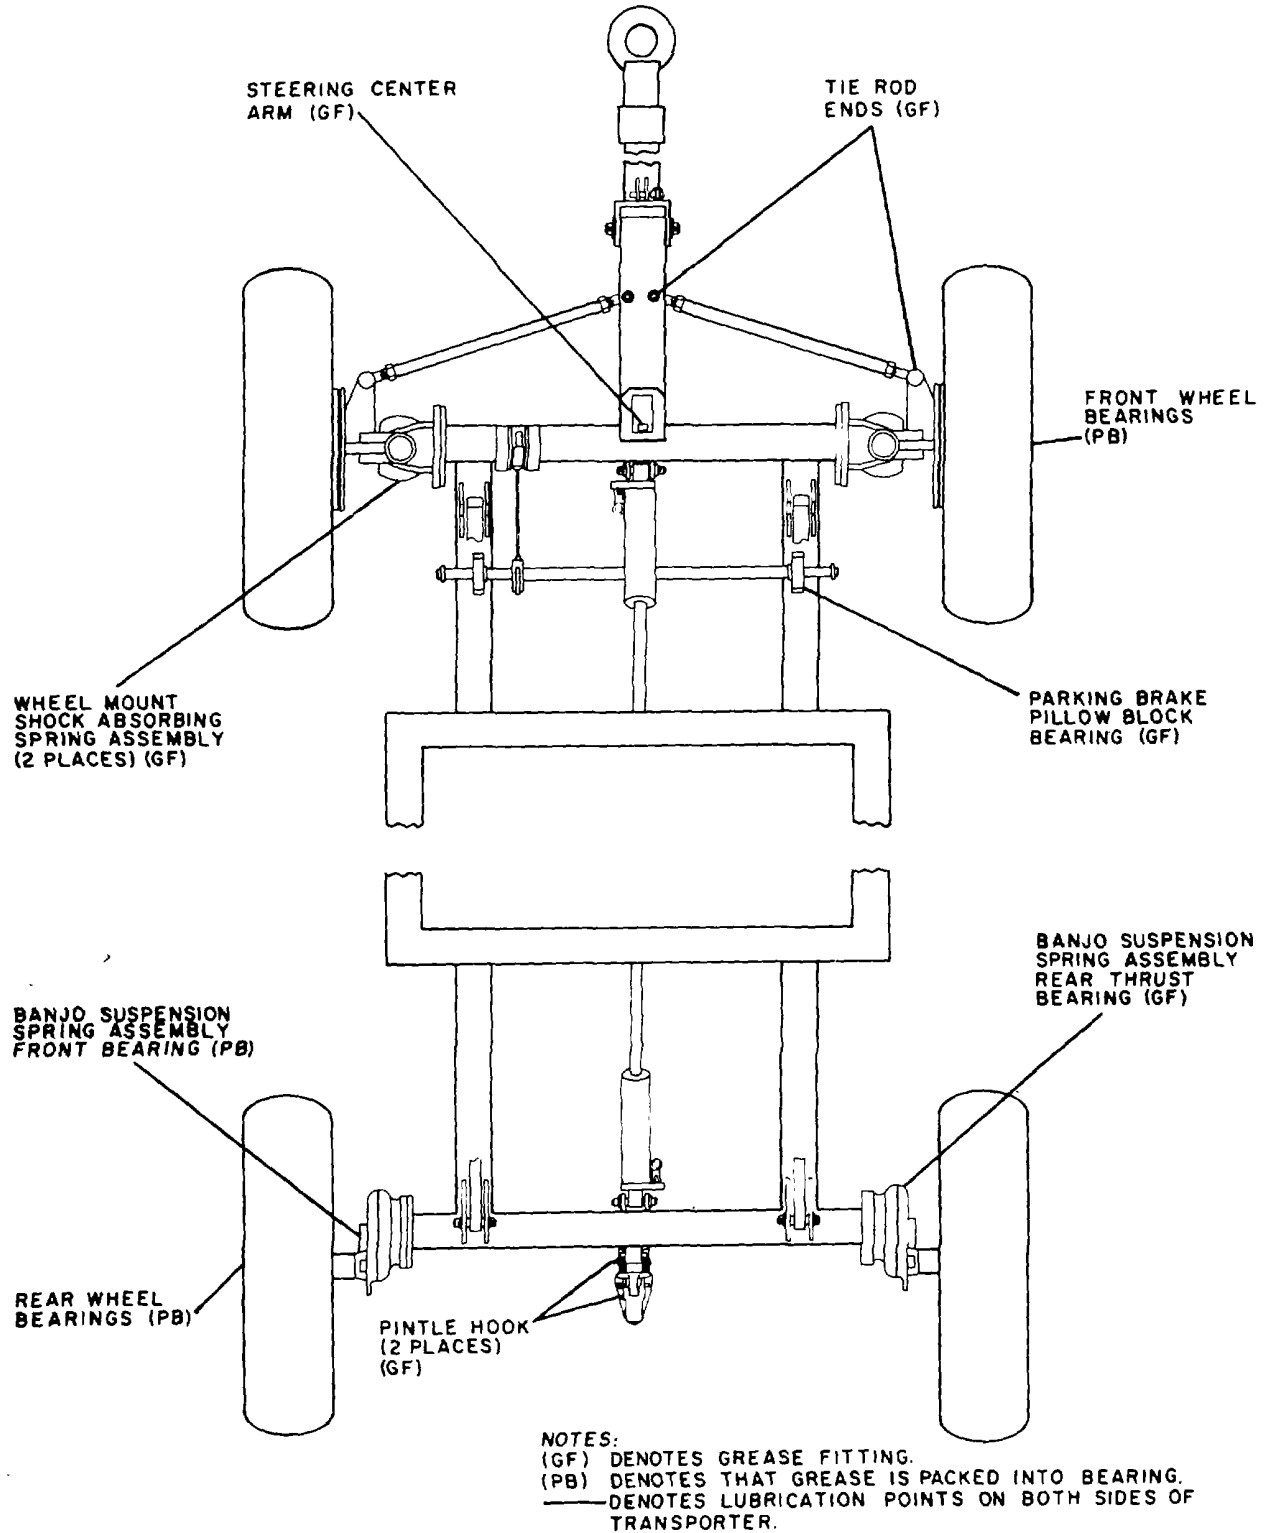

Figure 3-1. Lubrication point
c. Lubrication. The transporter is lubricated at the points shown in fig. 3-1. Lubrication is performed after 500 hours of normal operation, after washing, or after fording. Lubricate the transporter as follows:
- (1) Clean all fittings before lubricating.
- (2) Clean parts with dry-cleaning solvent.
- (3) Lubricate points, indicated by arrows, on both sides of the transporter.
- (4) Use automotive and artillery grease at all lubrication points.